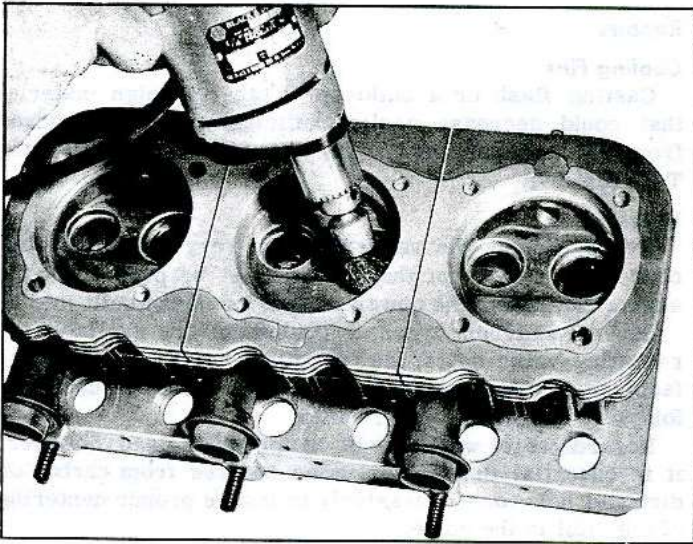

Fig. 80—Removing Carbon from Combustion Chamber
1. Clean carbon from combustion chambers and ports using Tool J-8358 (fig. 80).